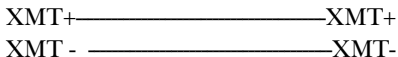

Figure 4-4. Transmit pair.
- In a single-pair circuit, use only the transmit (XMT) pair as shown in Figure 4-4.